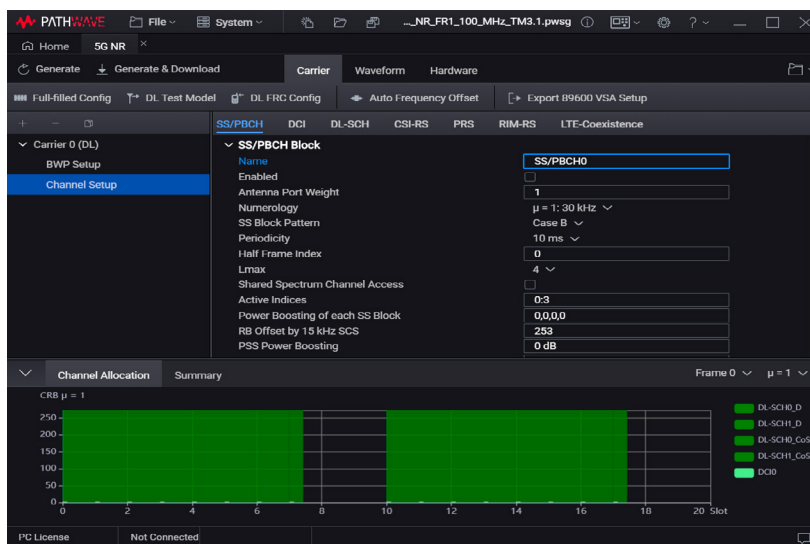

Figure 2. Simplify signal creation for 5G NR with the PC-based Keysight PathWave Signal Generation software
Figure 2 illustrates the PC-based **PathWave Signal Generation software for 5G New Radio (NR)**. Users can configure the instrument, waveform, resource allocation, and logical channel setups. The software can display the simulated waveform results, including the complementary cumulative distribution function (CCDF) power curve, spectrum, and IQ traces. It supports predefined, standards-based conformance test setups that save time and give you confidence that your measurements are compliant. Keysight's involvement with and leadership role in standards committees ensures that our software is at the forefront of evolving standards.